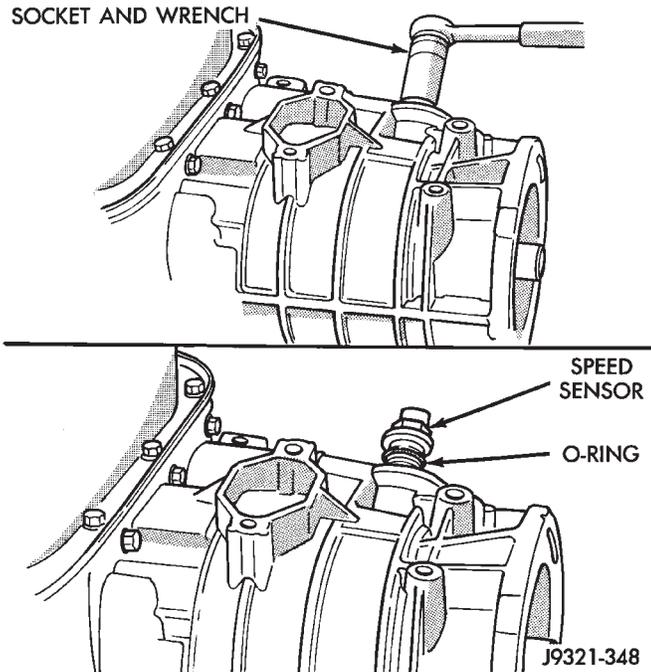

Fig. 208 Transmission Speed Sensor Removal/Installation
- (1) Remove transmission speed sensor and O-ring seal from overdrive case (Fig. 208).